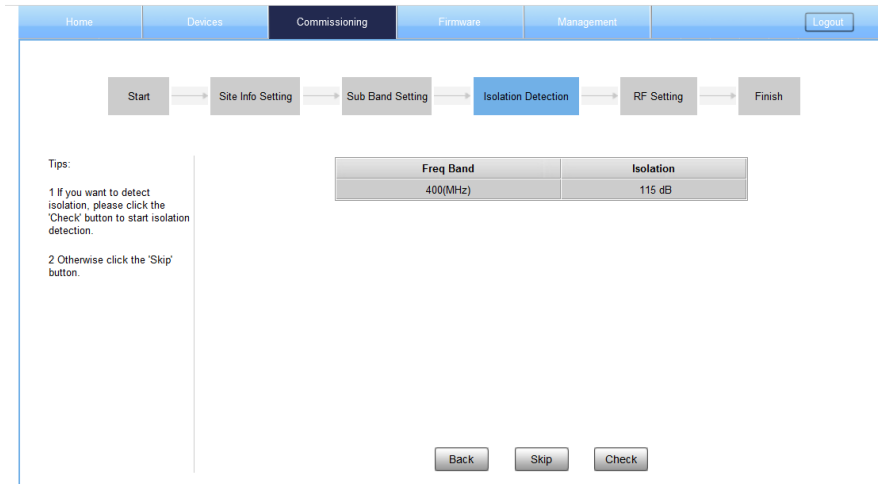

Figure 43: Commissioning Procedure – Isolation Detection Finish
- Click  to continue. If isolation detection passes, the process will go to Isolation Detection Finish shown as Figure 43. If failed, a Tips window will pop-up, users need to check whether the system isolation is adequate.